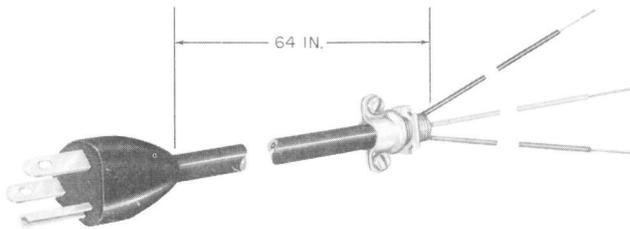

Fig. 2—KS-19425, List 22 Cable Assembly
- KS-19425, List 22 cable assembly (Fig. 2)